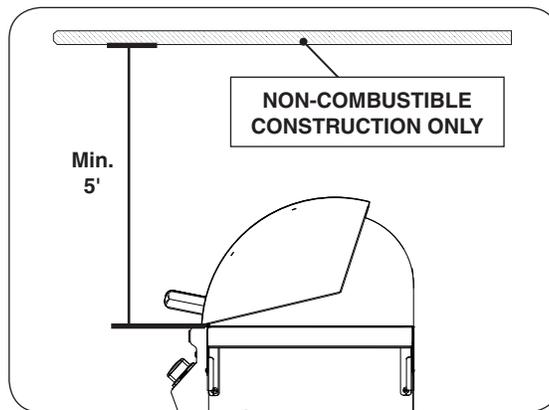

Fig. 10-1 Overhead requirements
A minimum clearance of 5 feet is required between the cooking surface and the non-combustible construction above (Fig. 10-1).
- The grill must have a minimum of 18" right, left, and rear clearance from any combustible wall (see Fig. 10-1).